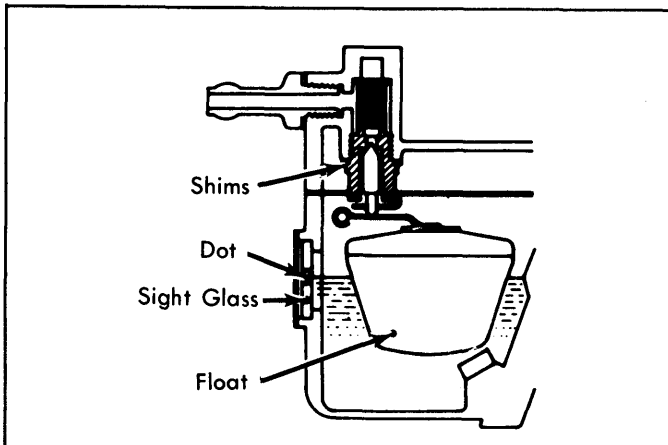

Fig. 2: Fuel Level Adjustment
1) Bring engine to normal operating temperature. Fuel level should be even with dot on sight glass. See Fig. 2. If not, adjust by adding or subtracting shims at needle valve assembly.